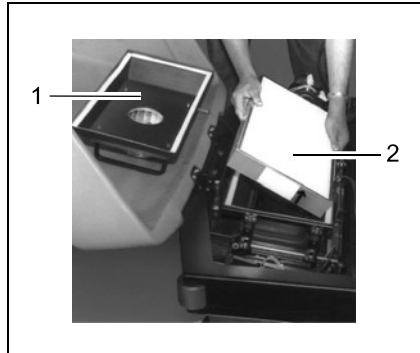

Fig. 37
Clean the panel air filter (Fig. 37/2) in the dust vacuum regularly and as necessary using the agitating device:
2. Remove the straps holding the filter case cover (Fig. 37/1).
3. Remove the filter case cover (Fig. 37/1).
4. Remove the panel air filter (Fig. 37/2).
Drop the panel air filter (Fig. 37/2) a few times, from a suitable height, onto a solid surface. Ensure the filter ribs are not damaged!
The surface must not have any irregularities. Do not let the panel air filter (Fig. 37/2) drop at a slant.
Do not install panel air filters (Fig. 37/2) which have damaged filter ribs!
The panel air filter (Fig. 37/2) must be installed in the reverse sequence to disassembly, refer to Section “Disassembling the panel air filter”.
To not insert the panel air filter (Fig. 37/2) the wrong way around! Pay attention to the arrow on the frame of the panel air filter (Fig. 37/2)! The arrow must point upwards.